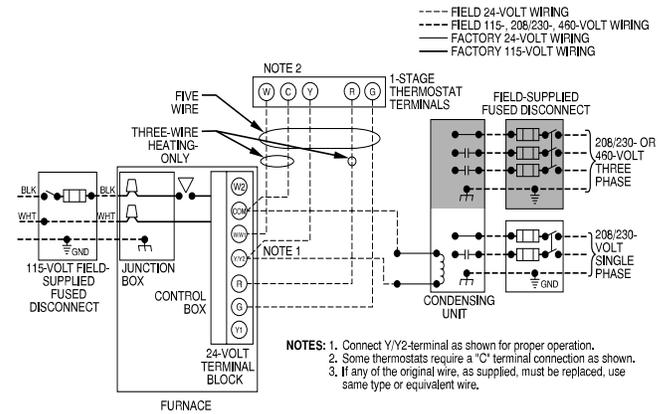

Fig. 32 – Typical Field Wiring Diagram
See Fig. 32 for field wiring diagram showing typical field 115-V wiring. Check all factory and field electrical connections for tightness. Field-supplied wiring shall conform with the limitations of 63°F (33°C) rise.
6. Connect power cord power and neutral leads to furnace power leads as shown in Fig. 32.
5. Connect field power and neutral leads to furnace power leads. as shown in Fig. 32.